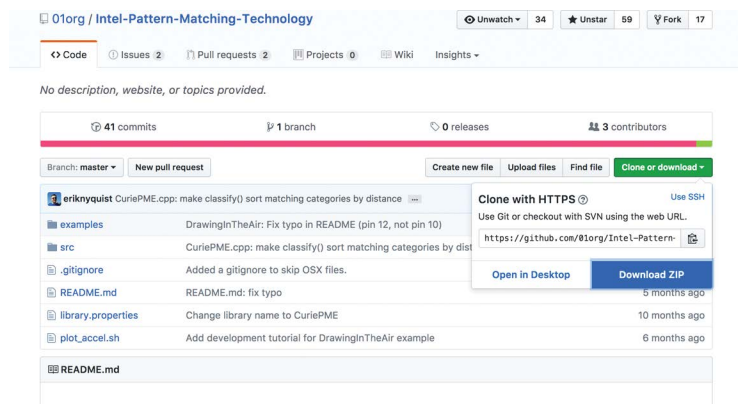

FIGURE 5.1: Curie PME GitHub repository
1. Download the zip file from its GitHub repository (Figure 5.1):